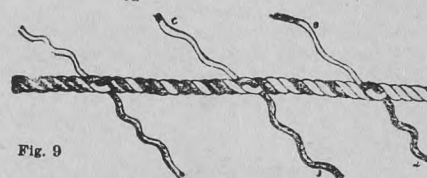

Fig. 9
now appear as in (fig. 9), the ties should be separated the same distance and each strand coming from (x) should be placed in front of the strand from (y) and tied. Crossing the strands otherwise, as behind (1), a mistake often made, makes it impossible to complete the splice properly.